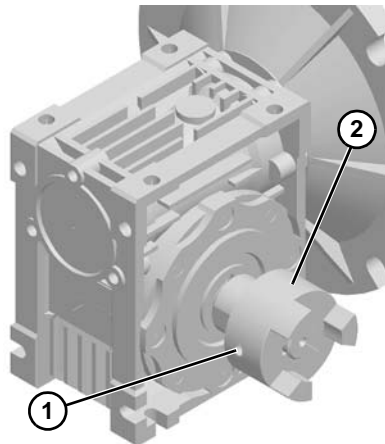

Figure 16
5. Loosen set screw (**Figure 16, item 1**) and remove 3 jaw coupling (**Figure 16, item 2**).